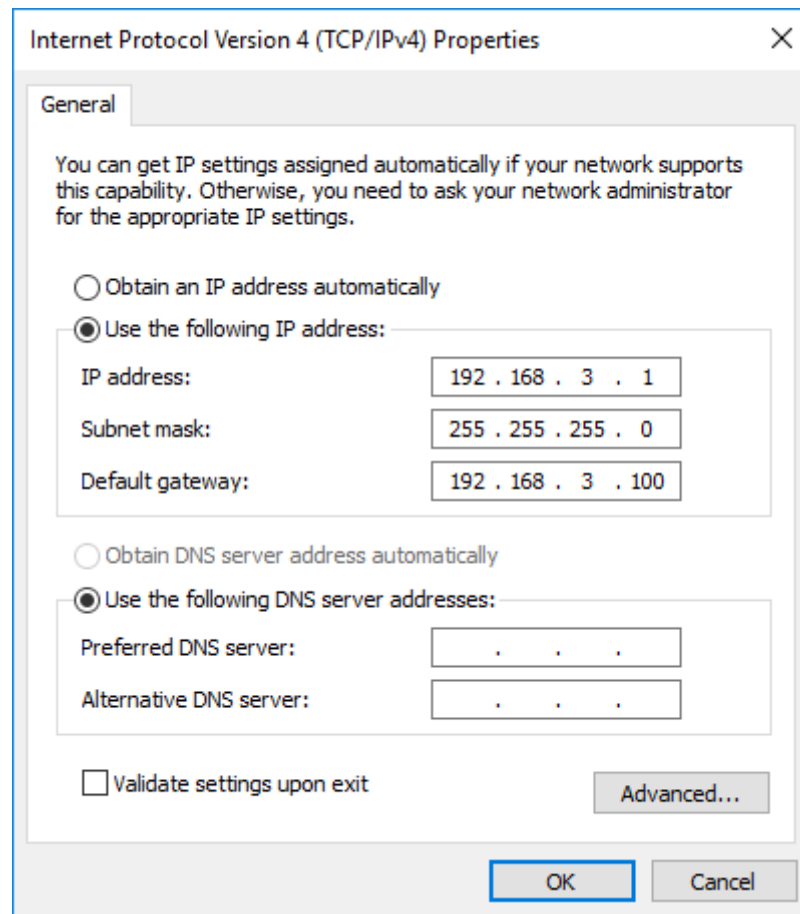

FIGURE 7: IP SETTINGS FOR DIRECT CONNECTION TO THE SENSOR.
STEP 5: Set the settings as indicated in Figure 7 and press OK.